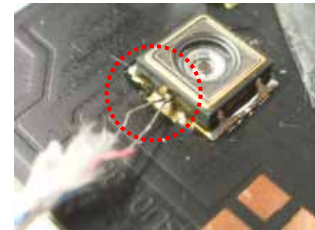

Fig. 1 Using higher heat-conductive grease or adhesive when Tj measured with thermocouples
*Ts measuring point: the red circled point in Fig.1